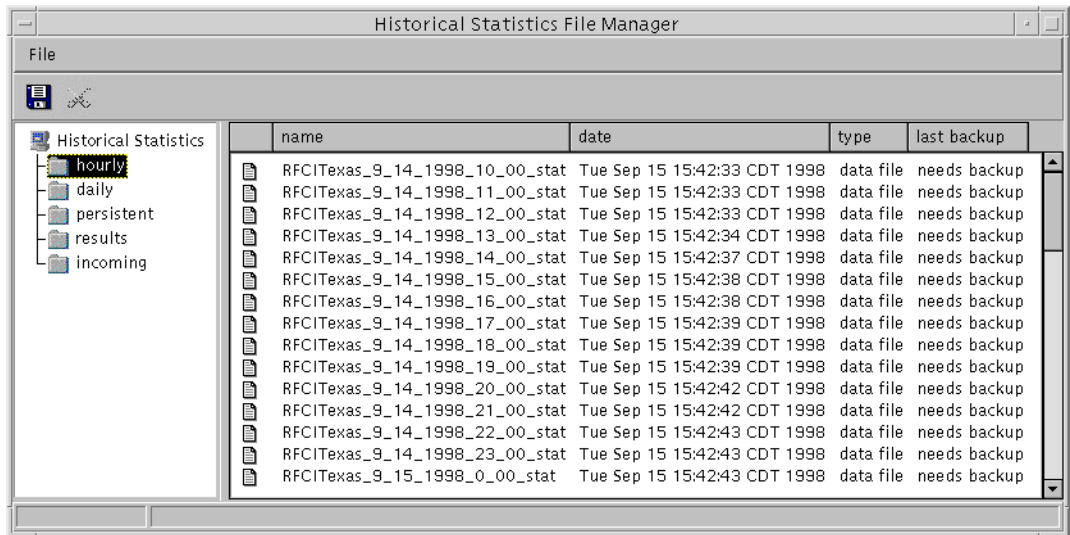

Figure 7-20: Verifying File Restoration
7. Select the folder that you restored. You should see the restored files in the file display window (see Figure 7-20).